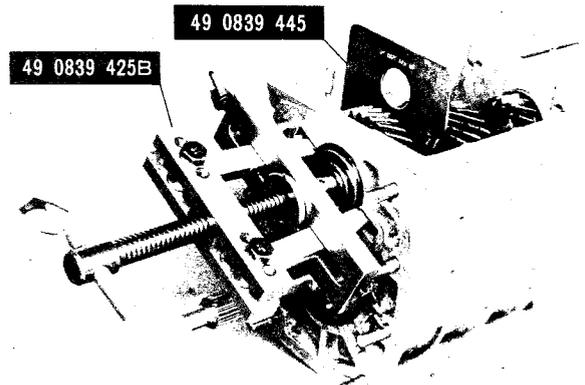

Fig. 7-5 Removing counter shaft front bearing
21. Install the **synchronizer ring holder** (49 0839 445) between the fourth synchronizer ring and the synchromesh gear on the main drive shaft, as shown in Fig. 7-5.
22. Using the **bearing puller** (49 0839 425B) as shown in Fig. 7-5, remove the counter shaft front bearing.